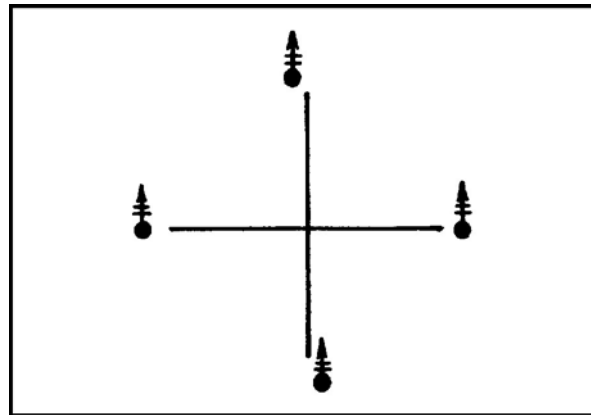

Figure 3. Diamond Formation
- b. The diamond formation (Figure 3), also used with the 4.2-inch, 81-mm, and 120-mm mortars, is about 100 meters wide and 100 meters deep. From this formation, mortars can fire well in all directions; it is the formation to use in restrictive terrain and where attached or added security is limited (as in a counterinsurgency).